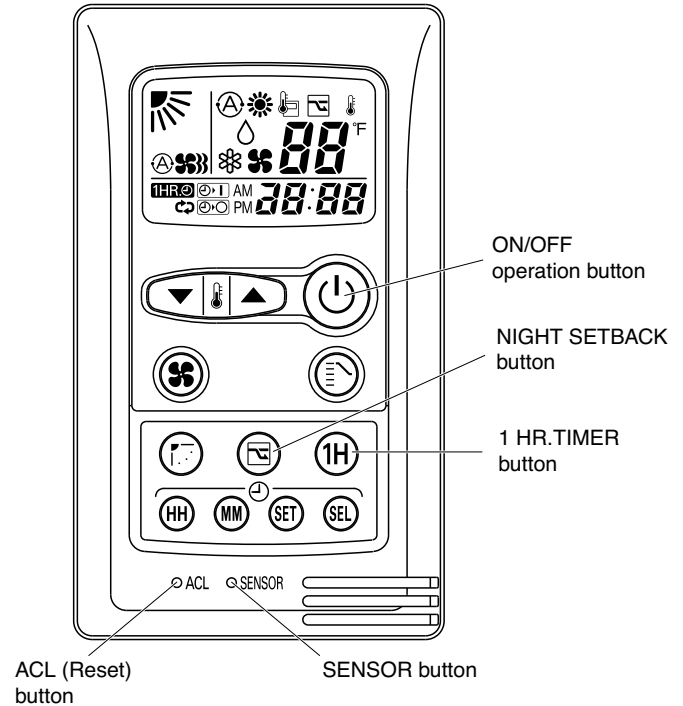

Fig. 9
If you wish the remote controller to sense the room temperature, press the SENSOR button with a ballpoint pen or tool with a small tip. (Refer to Fig. 9 on page 4 to locate the SENSOR button.)
- After all work is completed, if any switches have been changed, then be sure to press the ACL (Reset) button. (Refer to Fig. 9 on page 4 to locate the ACL (Reset) button.)
- (1) Set the remote controller in Test Run mode. (Fig. 9)
- (2) Start Cooling mode test run by pressing the ON/OFF operation button of the remote controller. (Fig. 9)
- (3) Press the ON/OFF operation button of the remote controller again to stop the test run. (Fig. 9)
- (4) Finally press the ACL (Reset) button of the remote controller to release it from Test Run mode to return to normal mode. (Fig. 9)